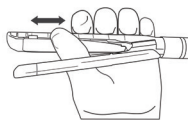

Figure 7
19. Visually inspect each buttress strip to ensure they are on the stapler jaws and cover the staple line. If necessary, manually press the buttress strip to reinforce adherence to the stapler jaws (See Figure 7).